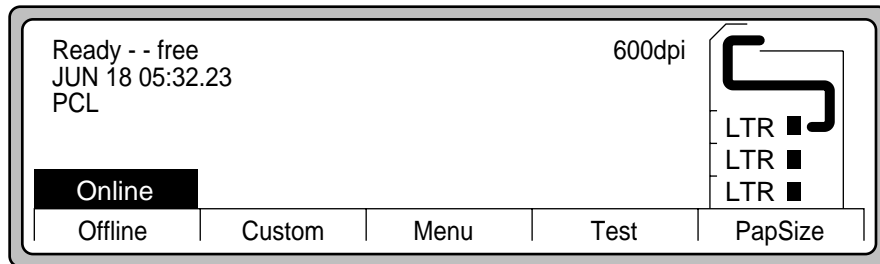

Figure 3-5 **Main Screen**
4. Configure the D640 to match the DTC port (refer to Figure 3-5).
The printer should be powered up, and the Main Screen should appear on the control panel display as shown in Figure 3-5.